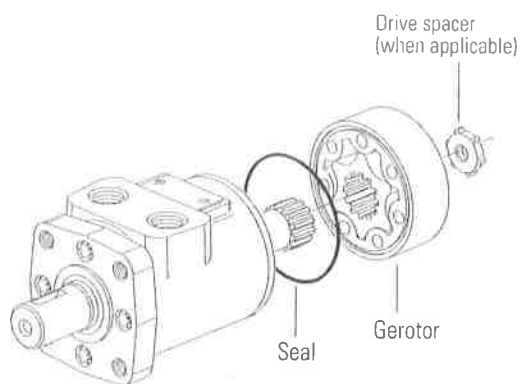

Figure 3
6. Remove seal from gerotor (see Figure 3).